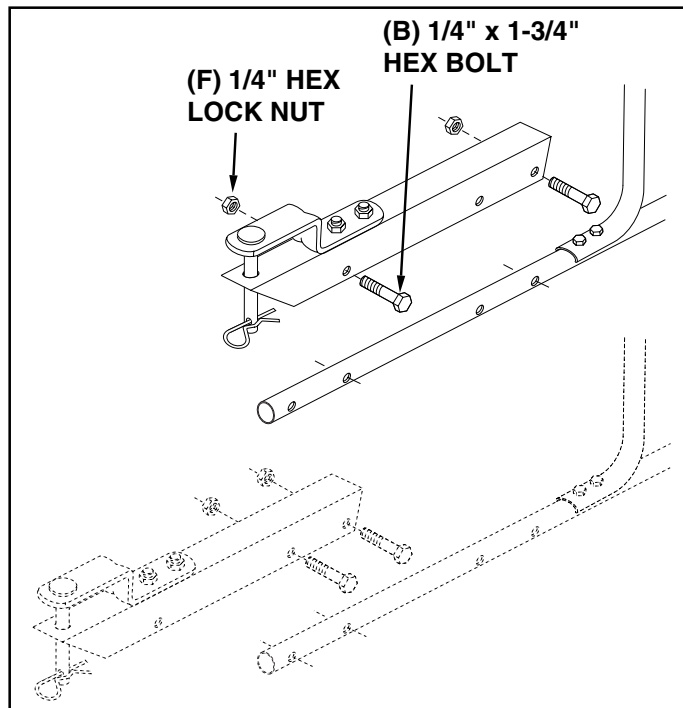

FIGURE 14
27. For most vehicles, assemble the hitch extension bracket to the holes in the hitch tube shown at the **top** of figure 14. Use two 1/4" x 1-3/4" hex bolts (B) and 1/4" hex lock nuts (F) tightened only finger tight. Attach the spreader hitch to your vehicle hitch. Check for interference with the spreader directly behind and out to both sides of the vehicle. Lift the spreader at each position to make sure there is no interference with the spreader's flow control. If there is interference with the rear of the vehicle, assemble the hitch extension bracket as shown at the **bottom** of figure 14. **Tighten** the bolts and nuts when finished.